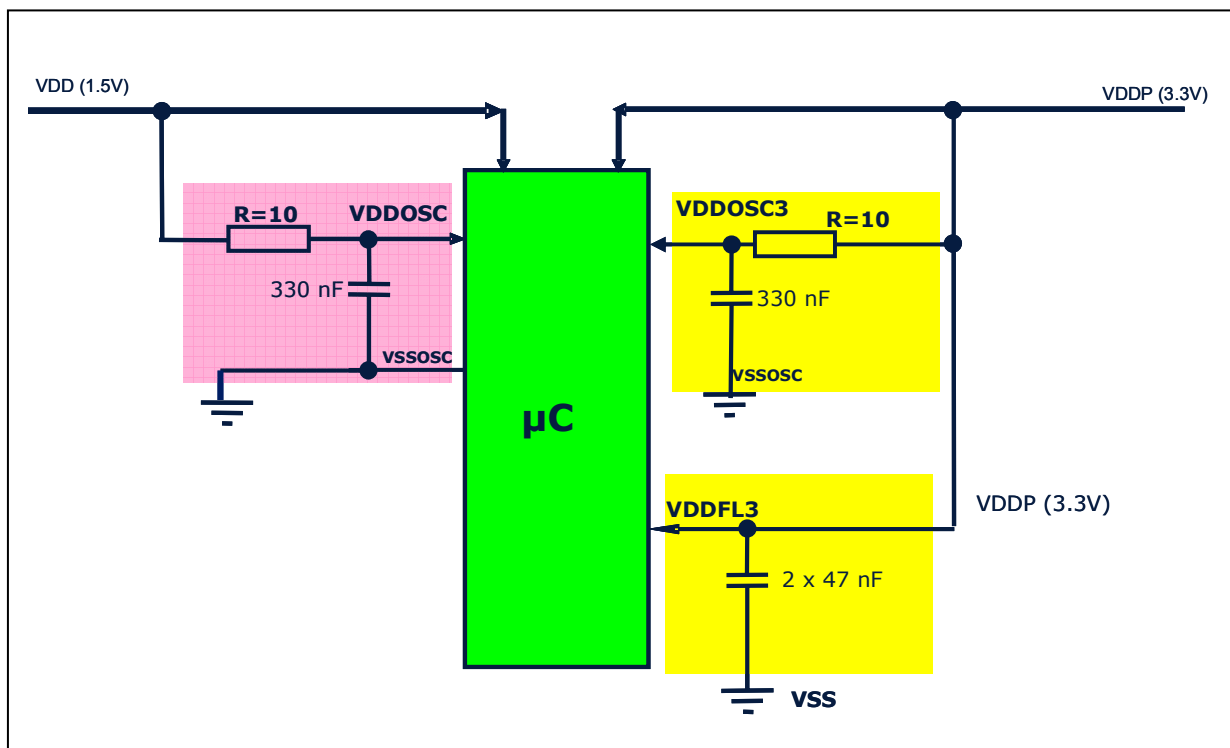

Figure 2 Filtering of VDDOSC, VDDOSC3 and VDDFL3 supply pins
| 7,10 | Figure 2 changed, Capacitor values changed | |
- RC Filters can be inserted in the supply paths at the regulator output and at the branchings to other module supply pins like VDDOSC, VDDOSC3, VDDFL3 (see Figure 2). Using inductance or ferrite beads (5 – 10 μH) instead of the resistors can improve the EME behaviour of the circuit and reduce the radiation up to $\sim 10\text{dB}\mu\text{V}$ on the related supply net.